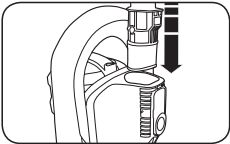

Fig. 1
1. Slide the handle into the slots on top of the vacuum until it clicks into place (Fig. 1).